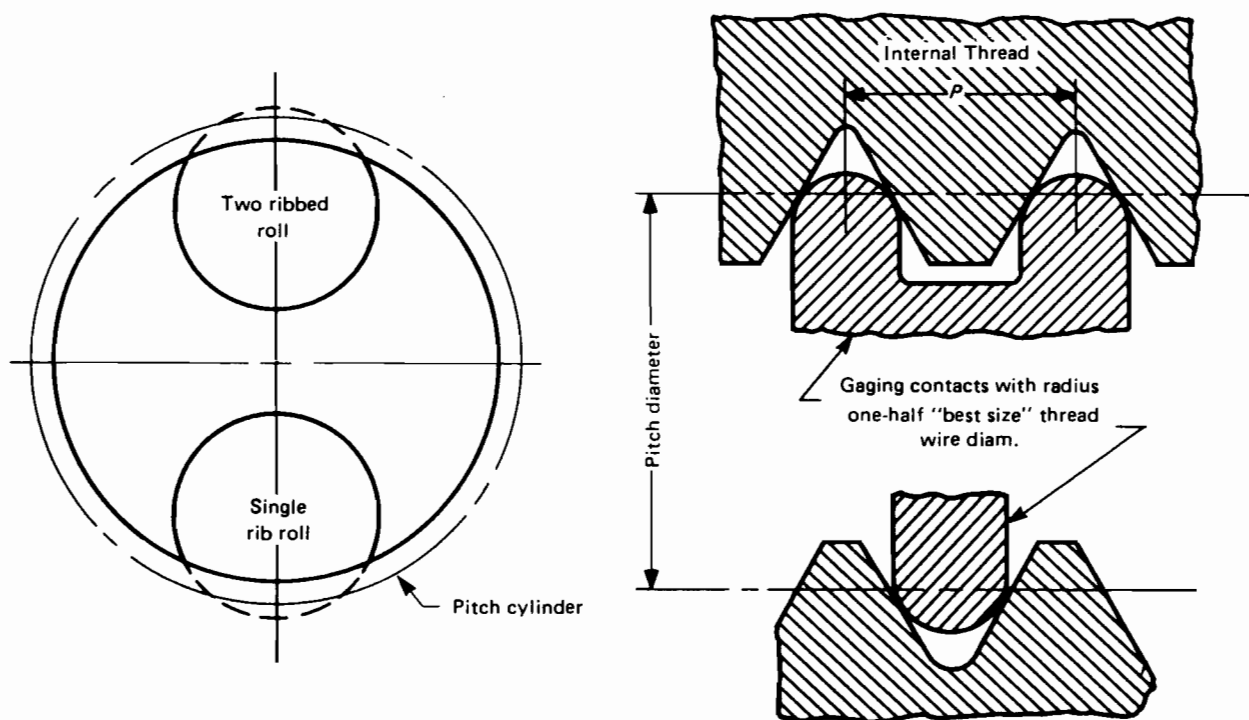

FIG. 7 THREAD SNAP GAGES — MINIMUM-MATERIAL THREAD GROOVE DIAMETER LIMIT
4.6.3 Thread Form. The specifications for the form on gage rolls are summarized in Fig. 7.